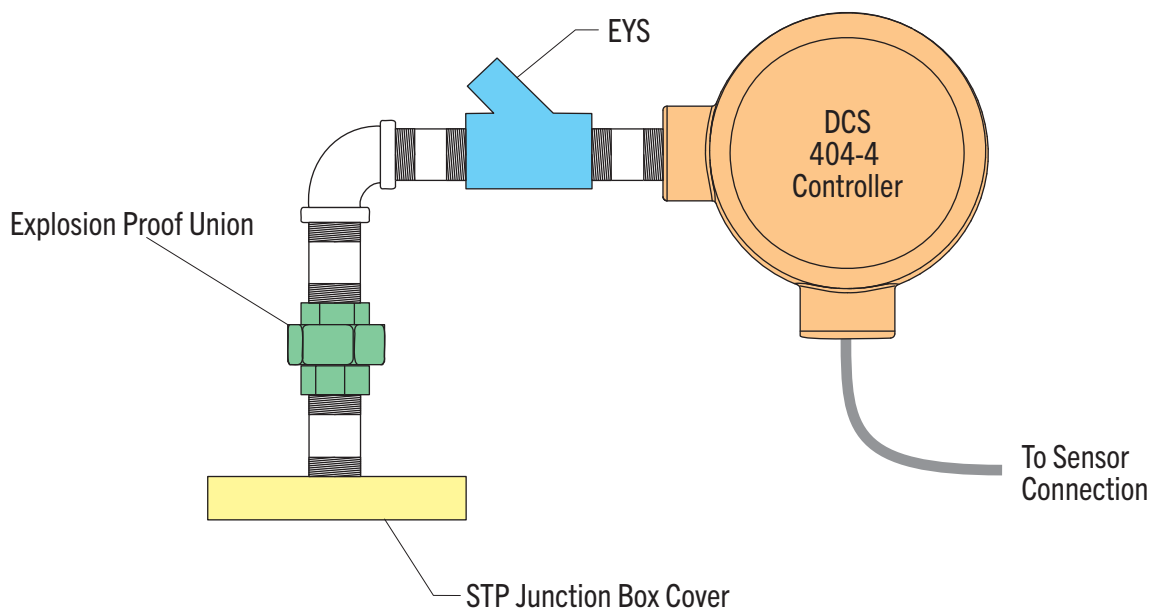

Figure 3 – Typical connection to STP.
- A typical means of connecting the controller to an STP via an explosion proof union is shown in Figure 3. All fittings must be UL listed and suitable for use in a Class I, Div 1, Group D environment.
5. Join the controller conduit to the STP junction box cover and replace the cover on the STP and securely tighten. A union will be required to do this (see Figure 3). A conduit seal must be installed between the dispenser J-box and the DCS controller. The conduit seal must be within 18" of the dispenser J-box and the DCS controller. Multiple conduit seals may be required for some installations, depending upon the distance between the dispenser J-Box and the DCS controller. Refer to NEC NFPA 70, article 501.15 (A) (3), 2011.